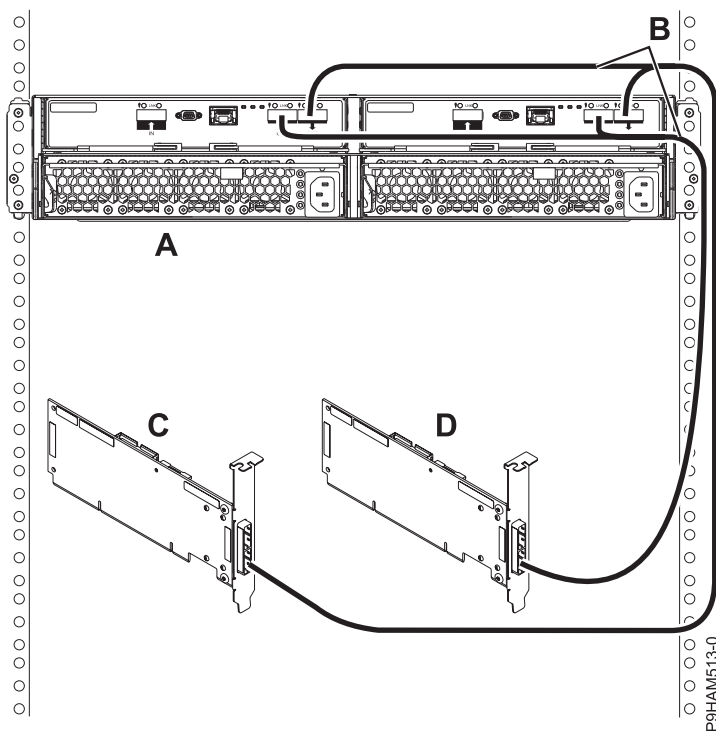

Figure 27. Mode 2 connection of one 5887 disk drive enclosure by using YO cables to two independent SAS adapters
18. Complete a mode 2 connection of one 5887 disk drive enclosure (A) by using YO cables (B) to two independent SAS adapters (C and D) as shown in Figure 27 on page 25 and then continue with "Connecting cables, power cords, and installing covers" on page 28.